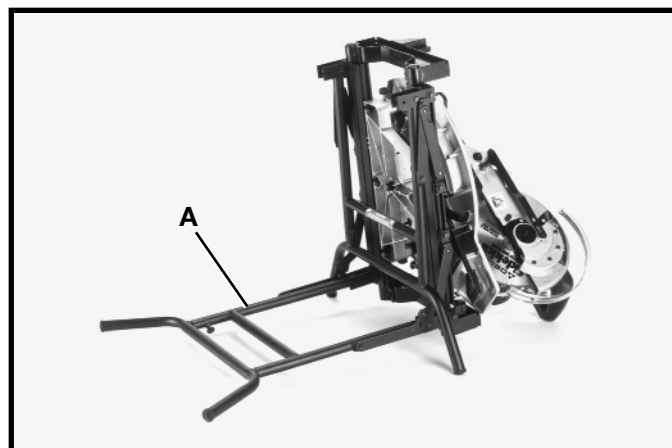

Fig. 5
1. Tilt the machine on its right side and unfold right leg (A) as shown in Fig. 5.